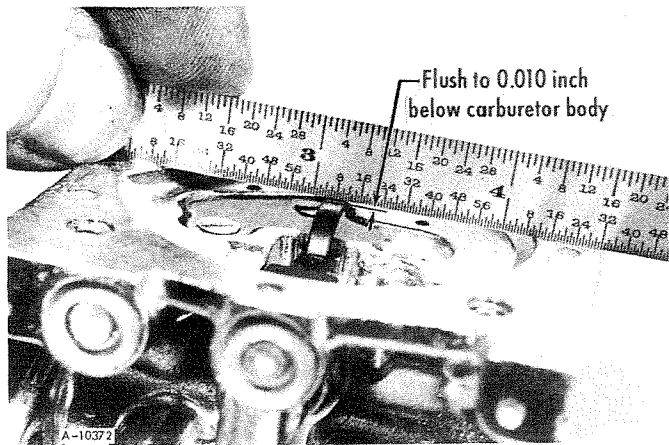

FIGURE 24
- When installing the control lever, make sure the inlet valve needle is in place and that the free end of the inlet lever spring is seated on the dimple of the control lever. The lever should be flush to 0.010 inch below the mating surface of the carburetor body (Figure 24). Adjust the lever by bending it at the point shown in Figure 21.